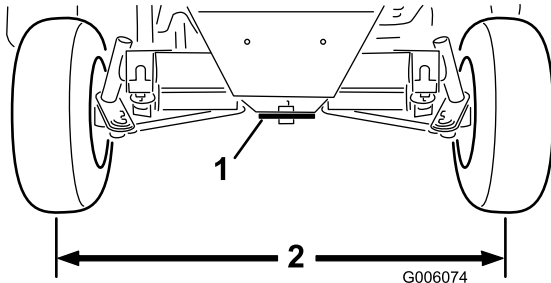

Figure 67
2. Adjust both tie rods until center-to-center distance at front and back of rear wheels is the same (Figure 67).